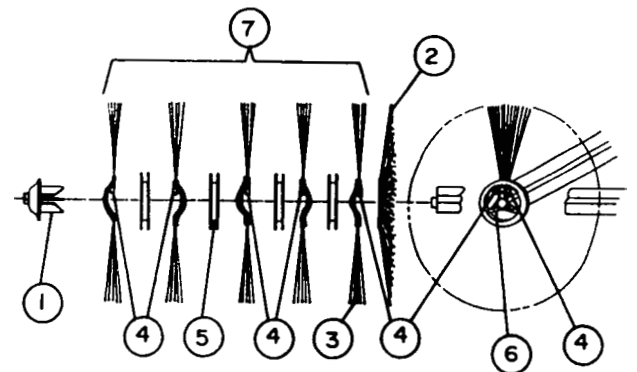

FIGURE 2
- c) Remove broom side plates with retainer cups (fig.2, item 1), worn brushes and spacer rings.
- d) Place one concave slanted brush (fig.2, item 2) on each side of gearbox facing each other, and install a zigzag brush (fig.2, item 3) next to each slanted brush [placing pins (fig.2, item 4) inside the brush against the concave brush]. Install a spacer ring (fig.2, item 5) next to the zigzag brush and place another zigzag brush with the pins away from the spacer ring [important: pins inside the zigzag brushes must all be positioned on the same brush support cone (fig.2, item 6)]. Place another spacer ring and a zigzag brush with the pins (fig.2, item 4) on the spacer ring side and so on, spacing brushes with spacer rings. Must end with a zigzag brush with the pins towards the gear box or check figure 2 and redo pattern (fig.2, item 7).
IMPORTANT: Pins (fig.2, item 4) in zigzag brushes must all be on same brush support cone (fig.2, item 6).